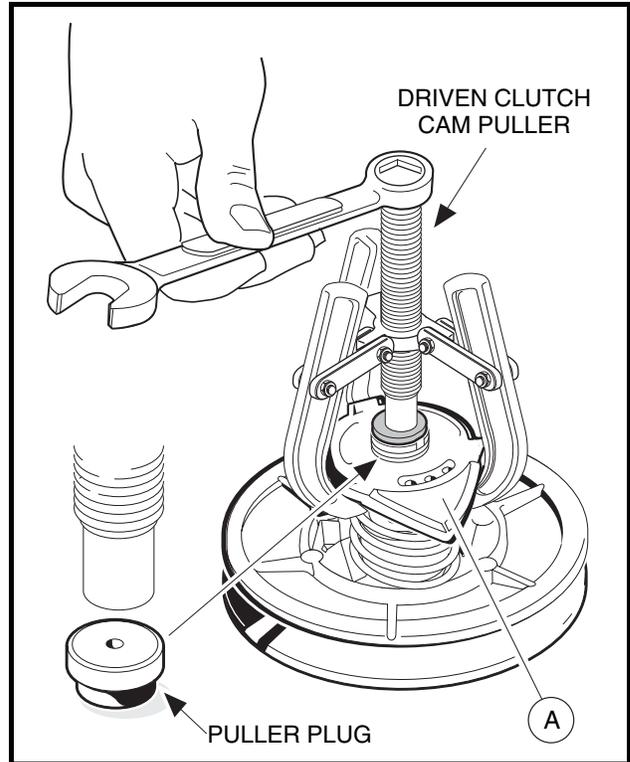
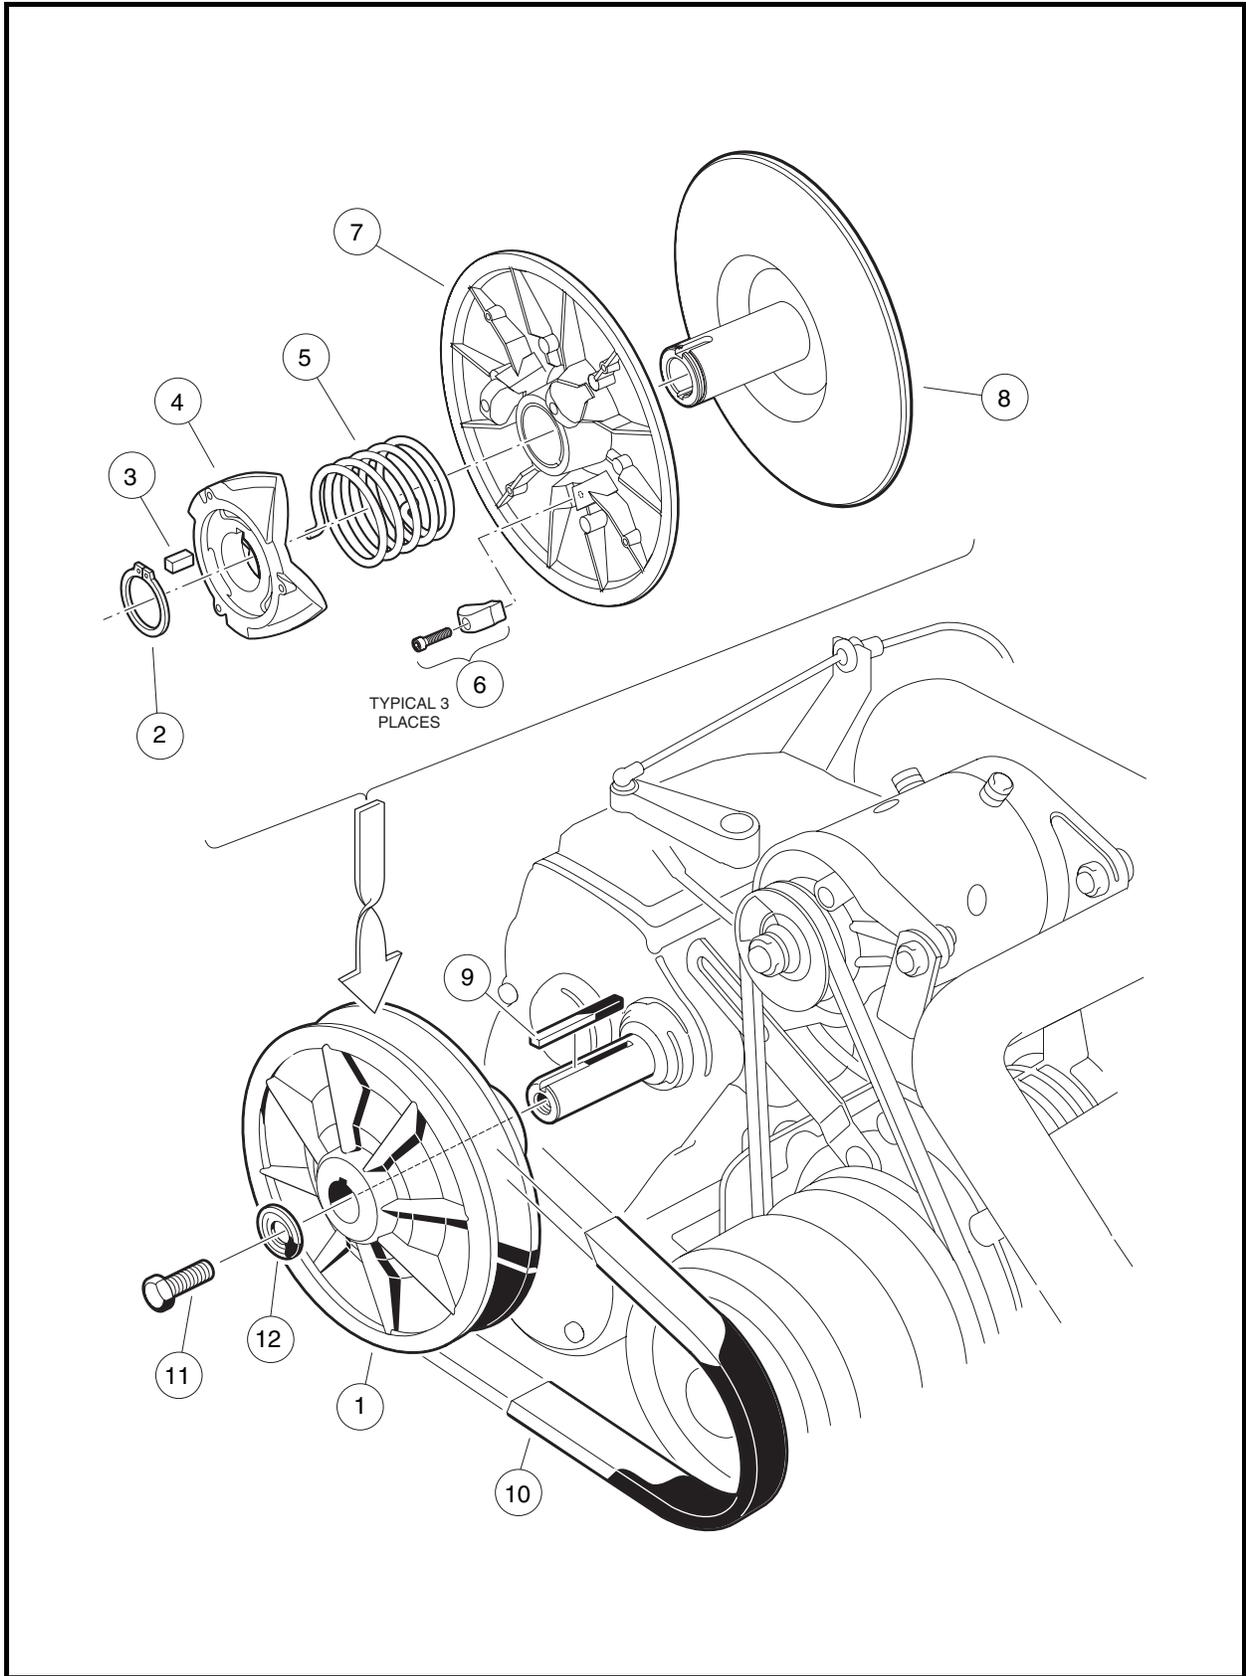

Figure 17-17 Driven Clutch Disassembly
Figure 17-18 Driven Clutch Assembly
2. Remove the bolt (11) and mounting washer (12) from the clutch shaft (**Figure 17-18, Page 17-14**).
4. Leave the key (9) in the keyway.
2. Insert a puller plug (CCI P/N 1014507) (**Figure 17-17, Page 17-13**) into the shaft bore and use a driven clutch cam puller (CCI P/N 1014508) to remove the cam (4) from the fixed face shaft (8) (**Figure 17-18, Page 17-14**).
3. Remove the spring (5) (**Figure 17-18, Page 17-14**).
4. Retain the key (3).
5. Slide the moveable face (7) off the fixed face shaft (8).
1. Inspect the cam (4) for excessive wear. Replace it if necessary (**Figure 17-18, Page 17-14**).
2. Inspect the drive buttons (6) for excessive wear. Replace if necessary. To remove the drive buttons, remove the socket-head cap screws and then the buttons.
1. Place the three drive buttons (6) in position. Apply one drop of Loctite® 222 to each of the socket-head cap screws and then install and tighten them to 8 in-lb (0.9 N·m) (**Figure 17-18, Page 17-14**).
2. Slide the moveable face assembly (7) onto the fixed face shaft (8).
3. Place the end of the spring (5) into the hole in the moveable face assembly.
4. Install the key (3) into the keyway of the fixed face assembly (8) shaft.
- 5.1.3. Install the retaining ring (2) (**Figure 17-18, Page 17-14**). **See following NOTE.**
1. To install the driven clutch, reverse the removal procedure. Make sure that the washer (12) is mounted with the flat portion of the washer against the driven clutch (**Figure 17-18, Page 17-14**). Secure with a new bolt (11). **See following NOTE.**
**NOTE:** *The bolt (11) must be replaced with a new bolt (CCI P/N 102242101) containing a locking patch that will prevent the bolt from loosening.*
2. Tighten the bolt (11) to 18 ft-lb (24.4 N·m).